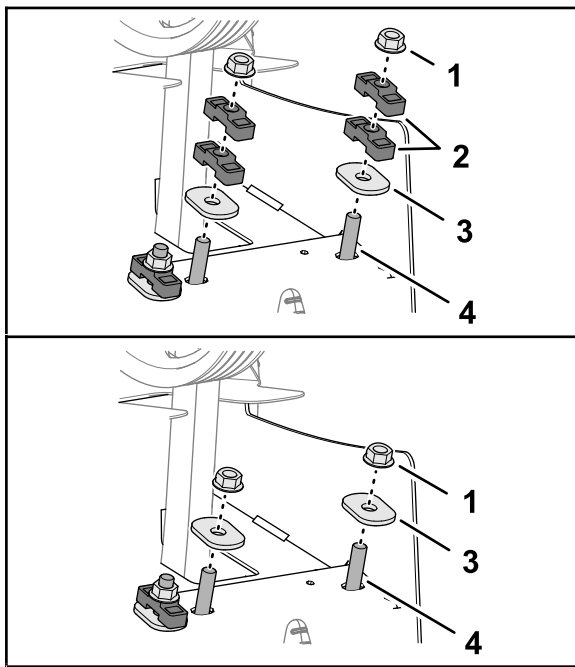

Figure 134
6. Secure the dampener shaft and spacers to the rear frame with the hardened oval washers and locknuts (Figure 134).